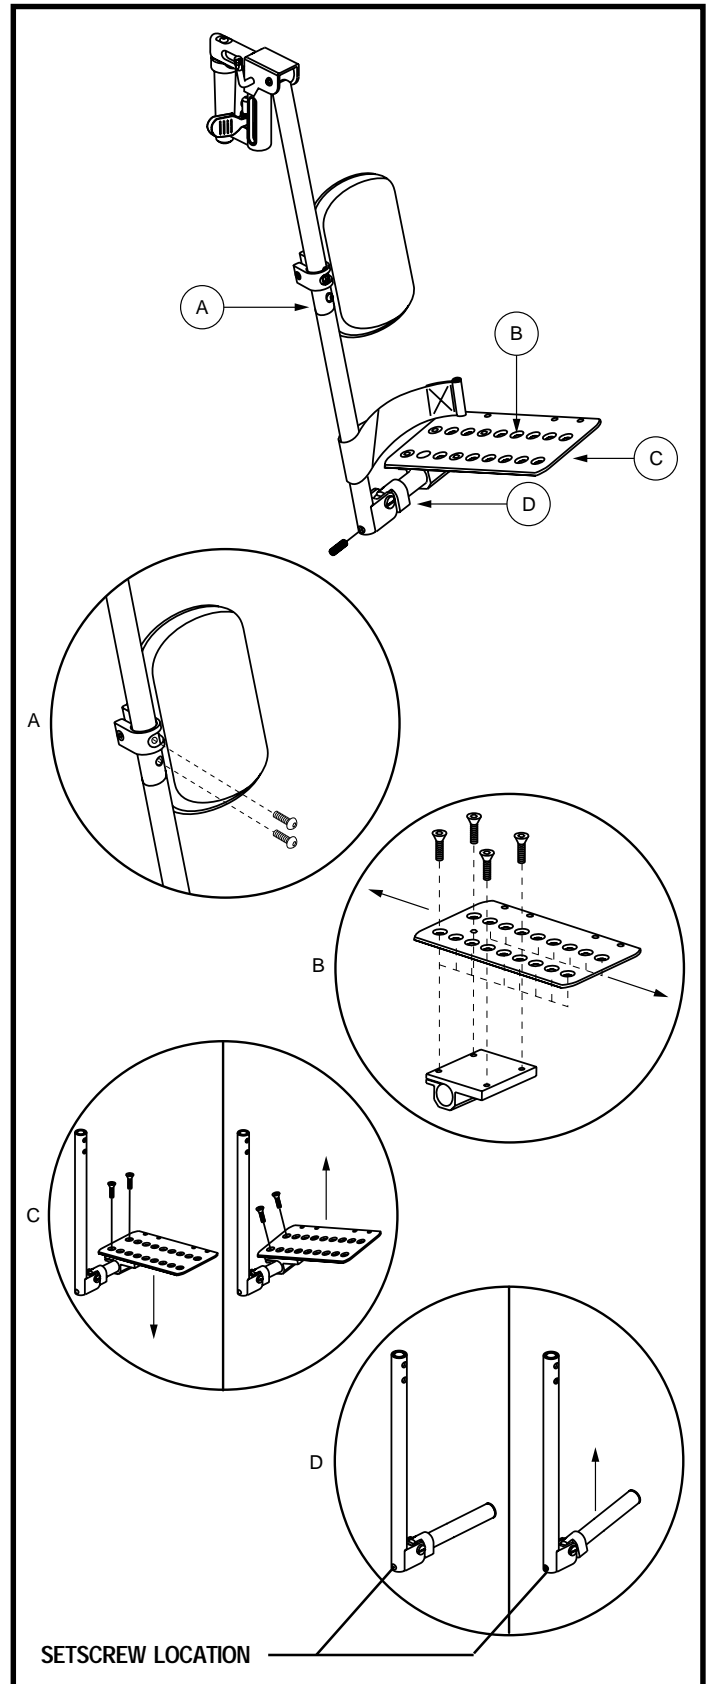

Figure 27. Multi-Axis Foot Plate (ELR Shown)
The multi-axis foot plate assembly can be installed on either a swing-away footrest or an elevating leg rest. The multi-axis foot plate has four adjustments: leg rest length (A), position (B), tilt (C), and angle (D). See figure 27.